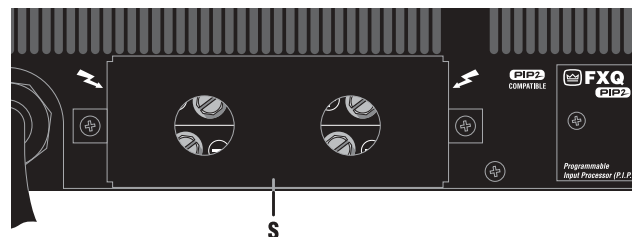

Fig. 2.5 Output Cover
This high-current output block is provided for output connection. Its connectors accept banana plugs, spade lugs or bare wire. The detachable output cover (S) shown in Figure 2.5 is used to protect against accidental short circuits and dangerous electrical shock. **DANGER: The outputs can produce lethal energy levels! Do not change the output wiring unless the amplifier has been off for at least 10 seconds.**